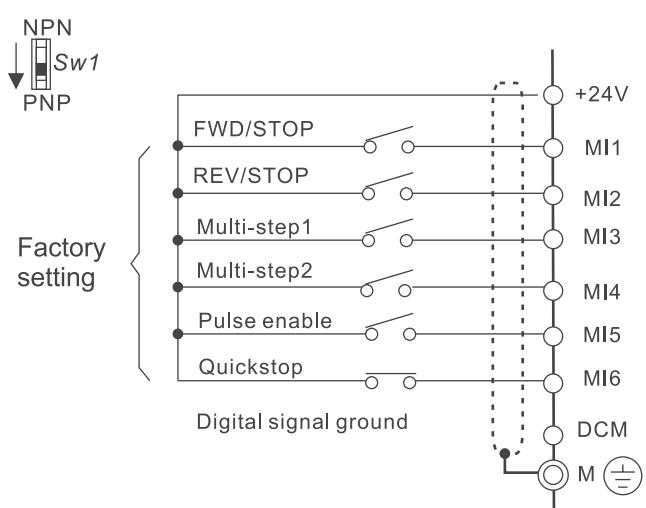

Figure 22: Connection NPN mode and PNP mode - without external power
*: Please refer to Figure 22 on page 52 for wiring of NPN mode and PNP mode.**NOTE**
*: Please refer to Figure 22 on page 52 for wiring of NPN mode and PNP mode.